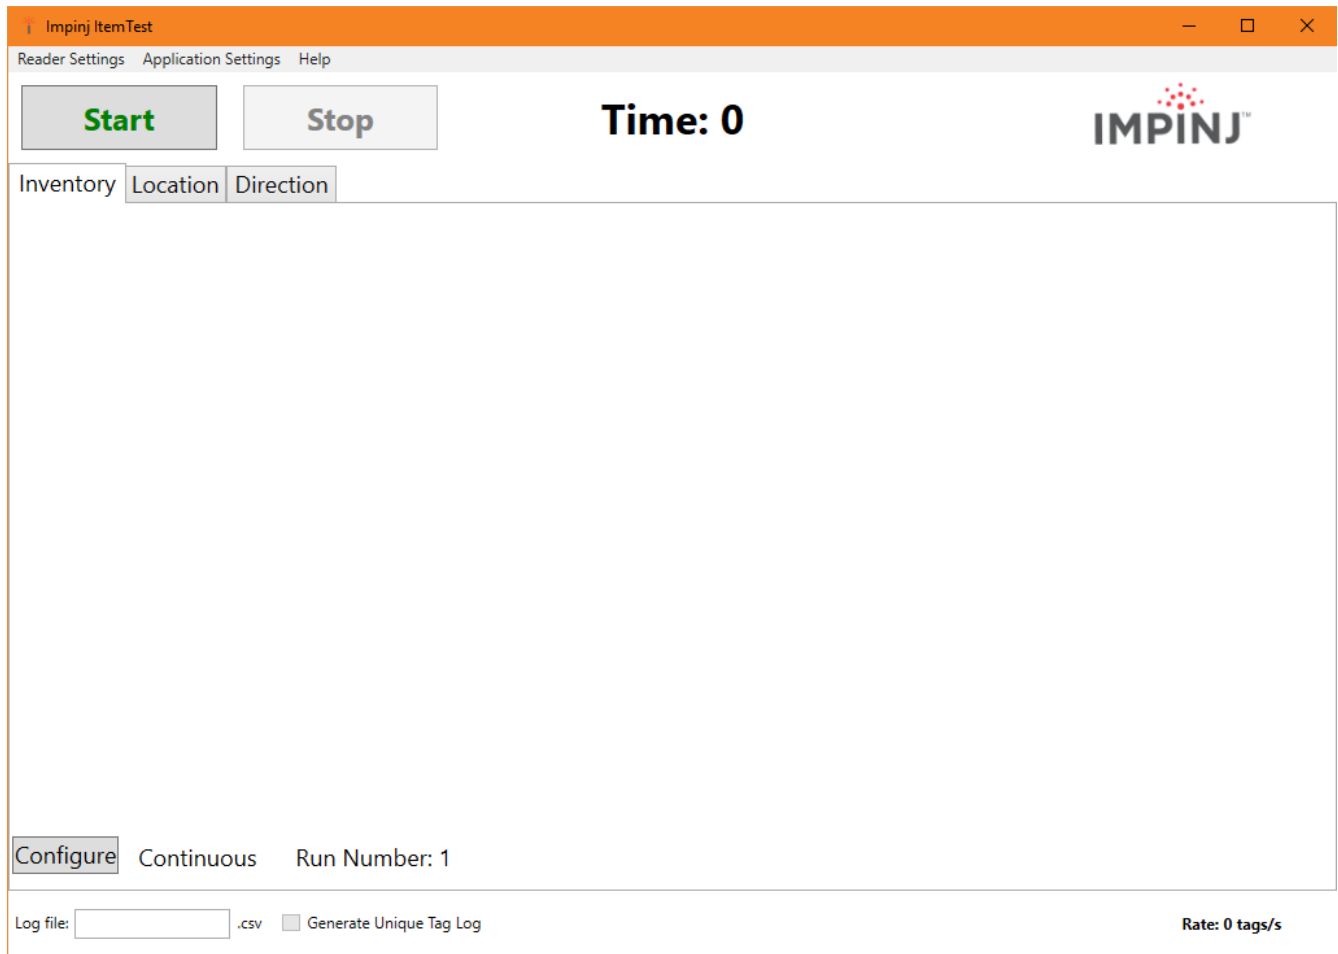

Figure 6.1 ItemTest initial screen
1. Install and launch the ItemTest application. The screen shown in Figure 6.1 displays.